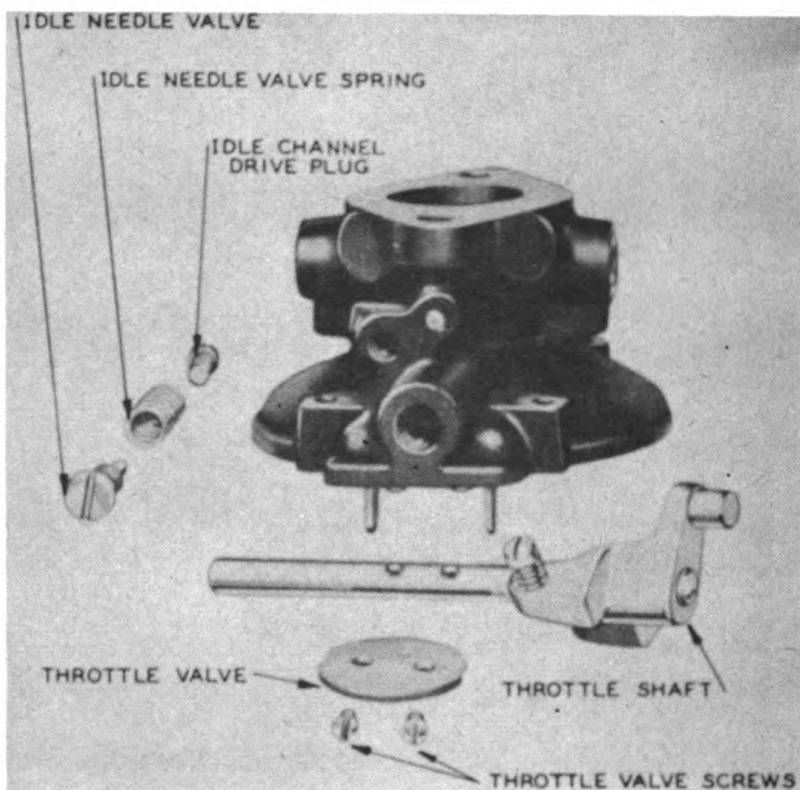

Fig. 93
4. Remove idle needle valve adjustment and spring. With a scribe, mark lines in the throttle valve along both edges of the throttle shaft. These lines will help to position the throttle valve accurately when it is again assembled. Remove throttle valve screws, throttle valve and throttle shaft. Remove idle channel drive plug. (Fig. 93).